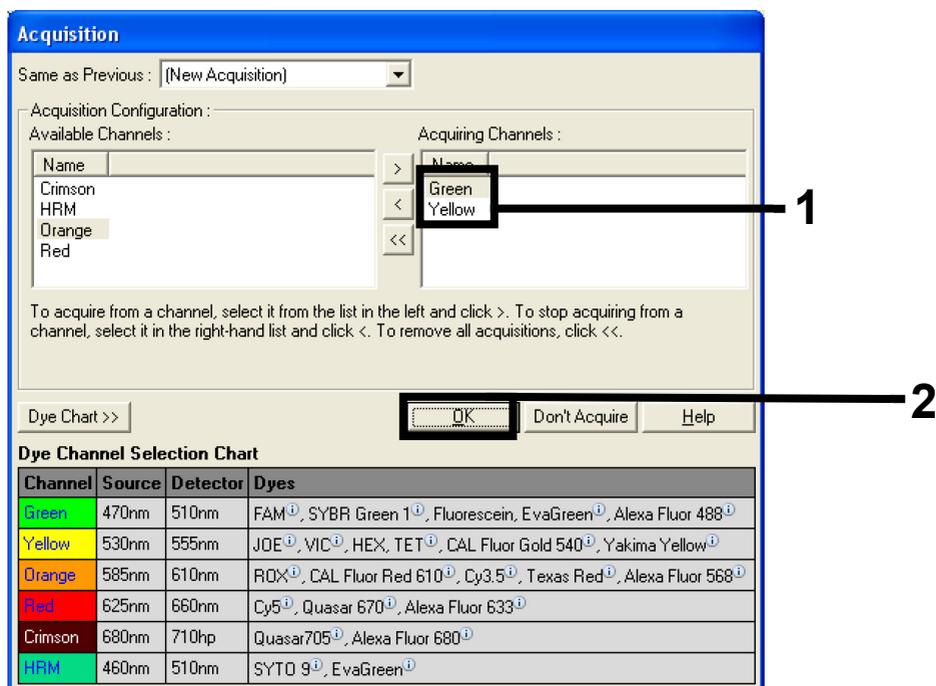

Figure 16. Acquiring at cycling step of 60°C.
10. Set "Green" and "Yellow" as acquiring channels by selecting the ">" button to transfer them from the "Available Channels" list. Click "OK" (Figure 16).